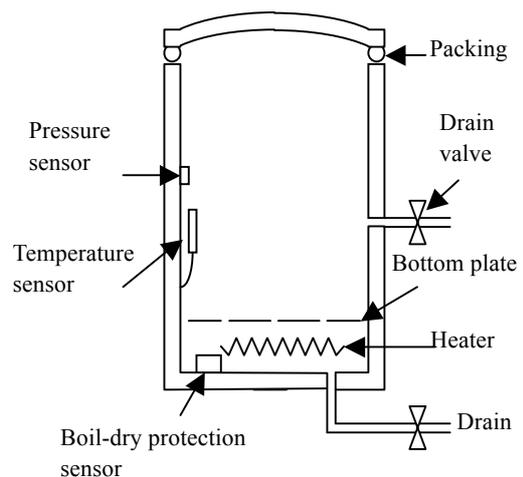
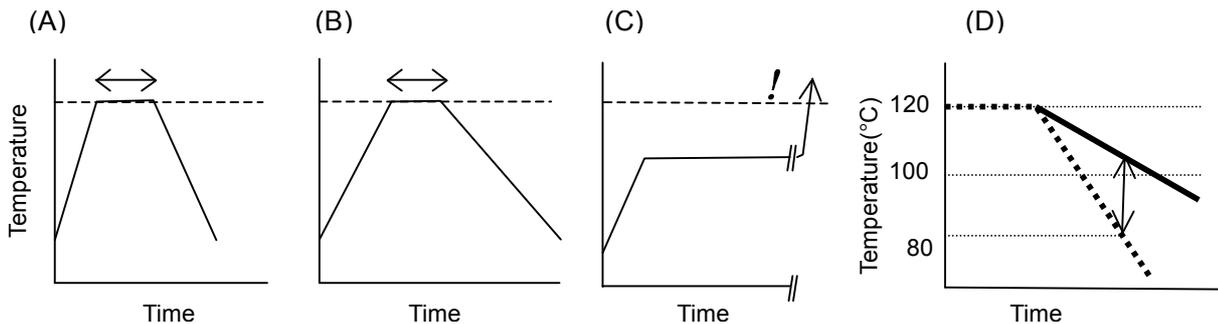

Fig. 8-1. Structure of autoclave
Fig. 8-2. Change in temperature in autoclave with time
Figure 8-1 shows the structure of the most common autoclave in the field of biochemistry. The time to maintain the obtained temperature after the temperature reaches the set value (the range indicated by the arrow in Figs. 8-2(A) and (B)) is set on the timer and the standard time is 10 – 20 minutes at 121°C.
Do not leave the laboratory unattended until the timer cuts out. This is because no-water burning will be caused if the vapor leaks caused by the aged deterioration of the packing. If vapor leaks, the sample will continue to be heated up because the temperature cannot reach the set value and the timer cannot start. Finally, all of the water will be exhausted, causing no-water burning (refer to Fig. 8-2(C)).
- (1) **Do not leave the laboratory before the timer is shut off. This rule should be strictly applied when everyone leaves the laboratory for a magazine meeting or seminar meeting. Do not place too much confidence on no-water burning protection sensor because it is not assured to always correctly function and whether the sensor correctly functions or not cannot be checked.**
- (2) There is a deviation (difference) of the real temperature of the autoclaved liquid from the value indicated on the thermometer (the thermometer part is cooled earlier than the liquid because the outside of the autoclave is first cooled). **The real temperature of agar medium, antifforming agent, highly viscous liquids, such as sugar at high concentration and glycerin, and a large amount of solution may be more than 100°C even though the thermometer indicates a temperature less than 80°C (Fig. 8-2 (D)).** When taking out such a sample, sudden boiling may occur, causing a burn. When it is autoclaved, wait until the value indicated on the thermometer decreases to 60 – 70°C, take it out to avoid sudden boiling, and **never shake up the solution just after it is taken out.**
- (3) Do not put agar medium into a container exceeding half the container's volume. For example, when using a conical flask with a volume of 500 mL, the agar medium limit is 250 mL. If more agar medium is used, the risk of sudden boiling increases, causing problems when mixing after autoclaving (the concentration of agar around the bottom after autoclaving is high because agar sinks). If agar is mixed just after autoclaving, sudden boiling may occur. Leave it to cool at room temperature for a few minutes.
- (4) Do not autoclave a sample with a low boiling point, such as organic solvents. To do so may cause fire or explosion; in addition, the bad smell produced will disturb others. The concentration of the
- (6) Be sure to loosen the lid of the container to be autoclaved. If sealed, the pressure outside the container increases prior to the inside as temperature increases, and decreases as temperature decreases. This pressure difference may cause the breakage of a glass container or the deformation of a plastic container.
- (7) If a plastic container, such as a centrifuge tube, is autoclaved, the lid will be pressed closely against the body when the container is cooled having a negative pressure after autoclaving, and will be deformed when the container is further cooled having a lower inner pressure. Therefore, sterilize the container with the lid removed, or wrap the container with aluminum foil while the lid is being sufficiently loosened so that the lid cannot be pressed closely against the body.
- (8) An uncracked medium bottle resistant to approximately one atmospheric pressure can be sealed and autoclaved. However, it cannot be sterilized unless a drop of distilled water is put in the bottle (it takes at least three hours at 160°C to sterilize the sample under a dry condition).
- (9) Overheating may transform the sample. If compounds with amino groups and reducing sugars, such as yeast extract and glucose, are autoclaved at the same time, the Maillard reaction occurs; therefore, the medium turns brownish and the sample strain may be prevented from growing. The longer the heating time and the higher the pH (pH>6), the more marked this reaction. Moreover, this reaction occurs more markedly when a large amount of medium is autoclaved (Fig. 8-2 (B)) than when a small amount of medium is autoclaved (Fig. 8-2 (A)).
- (10) If the sample is spilled (boiled over) in the autoclave, clean it up. Even if no sample is spilled, change the water once a week and clean up the autoclave every two to four weeks.